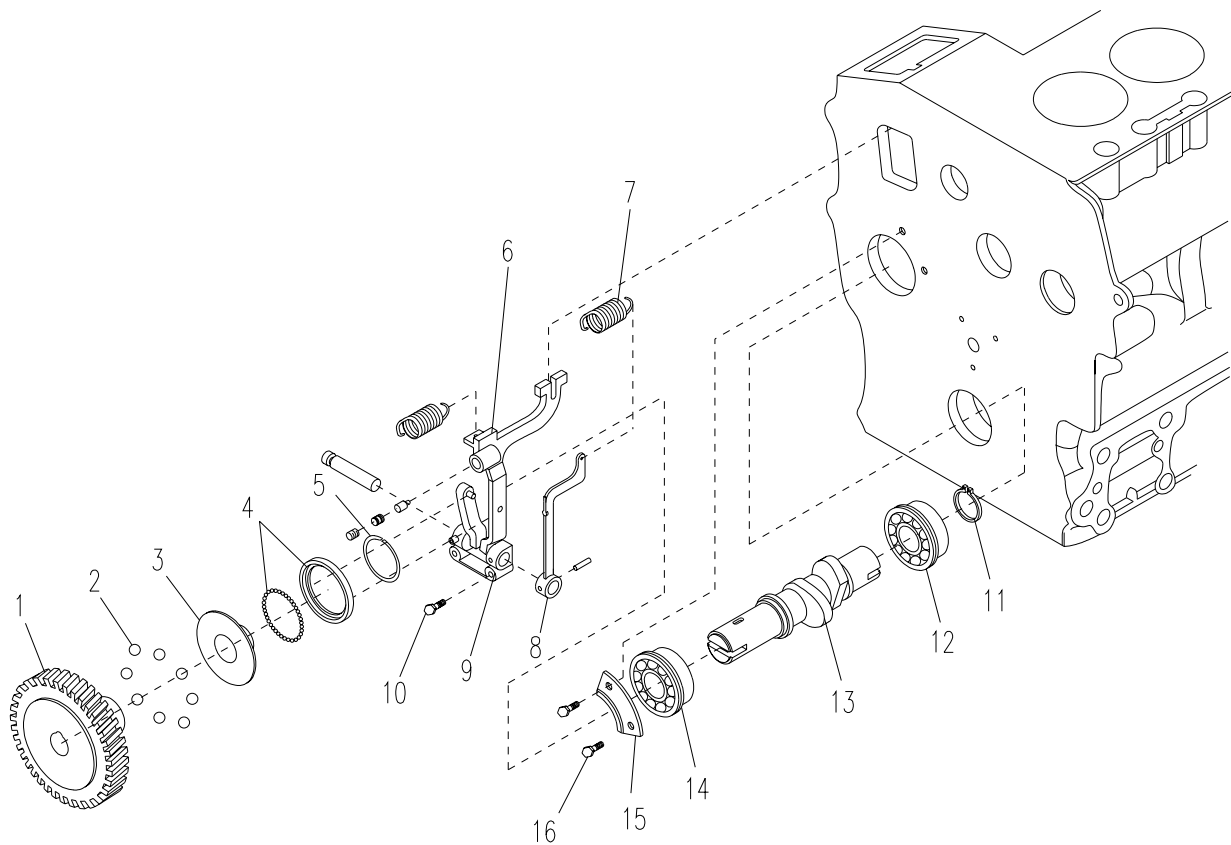

Figure 6-15. Fuel Camshaft
- a. Remove two bolts (16, Figure 6-15) and stopper (15).
- b. Remove two bolts (10) securing governor fork holder (9) to engine.
- c. Remove injection pump gear (1), large balls (2), governor sleeve (3), governor ball case and balls (4), and governor sleeve circular clip (5).
- d. Remove spring (7) from fork lever 2 (8) and carefully remove governor fork assembly (6).
- e. Remove bearing case (14), fuel camshaft (13), bearing case (12) and external circular clip (11).
- f. Install external circular clip (11), bearing case (12), new fuel camshaft (13) and bearing case (14).
- g. Install governor fork assembly (6). Carefully install spring (7) to fork lever 2 (8).
- h. Install governor sleeve circular clip (5), governor sleeve ball case and balls (4), governor sleeve (3), large balls (2), and injection pump gear (1).
- i. Secure governor fork holder (9) to engine with two bolts (10).
- j. Secure stopper (15) to engine with two bolts (16).